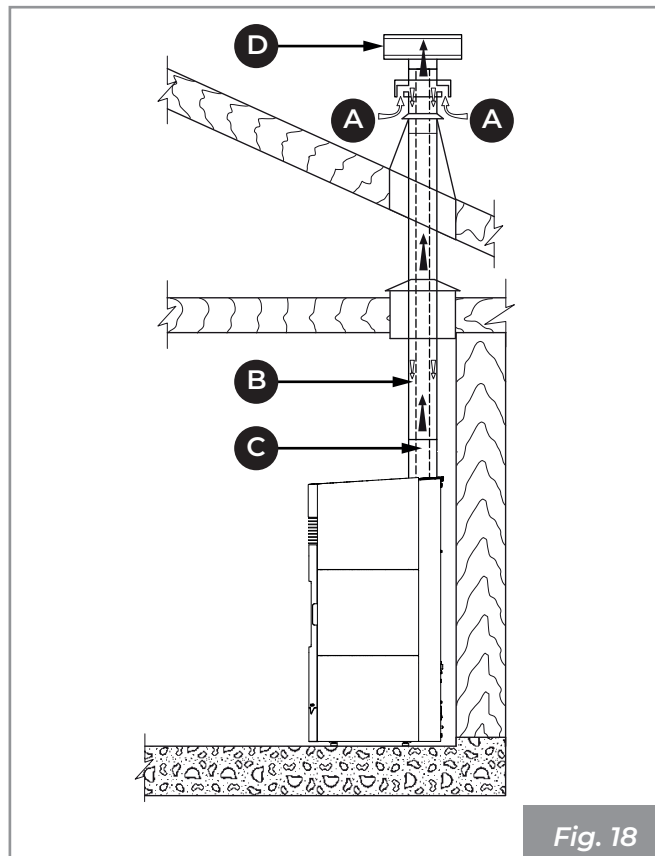
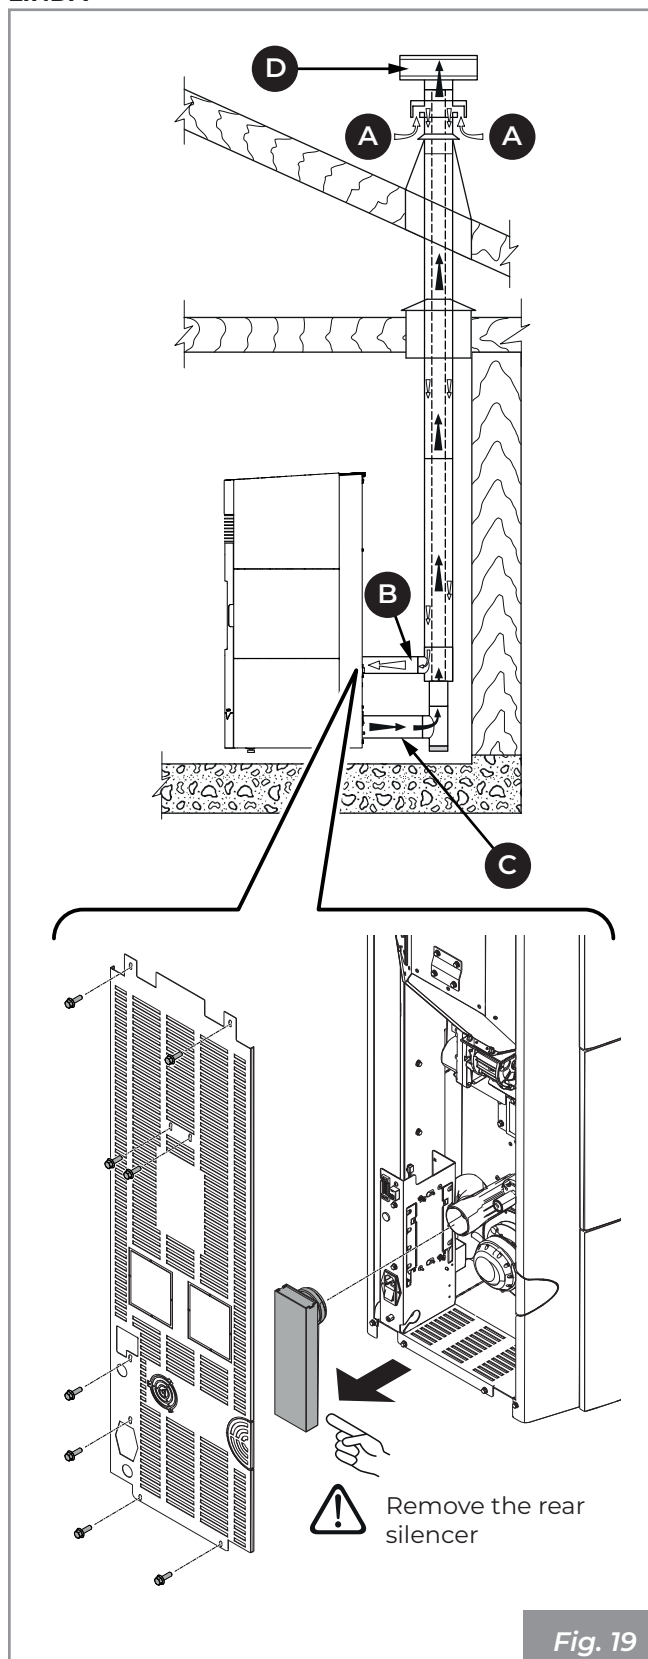
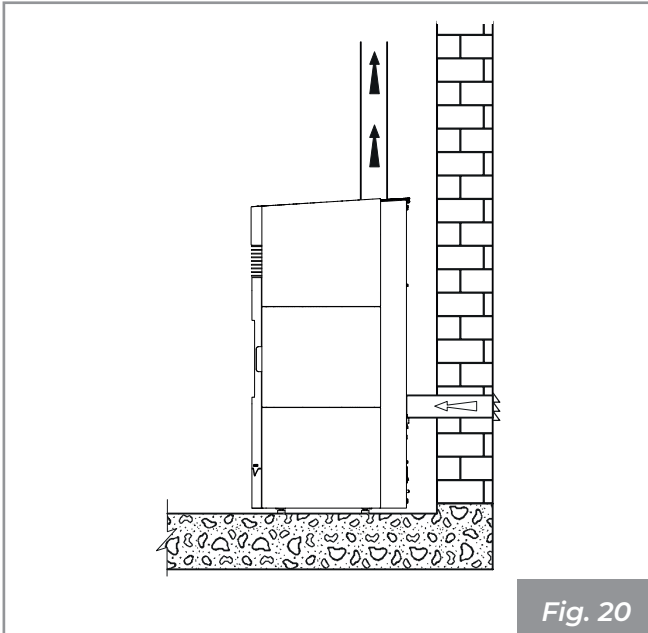
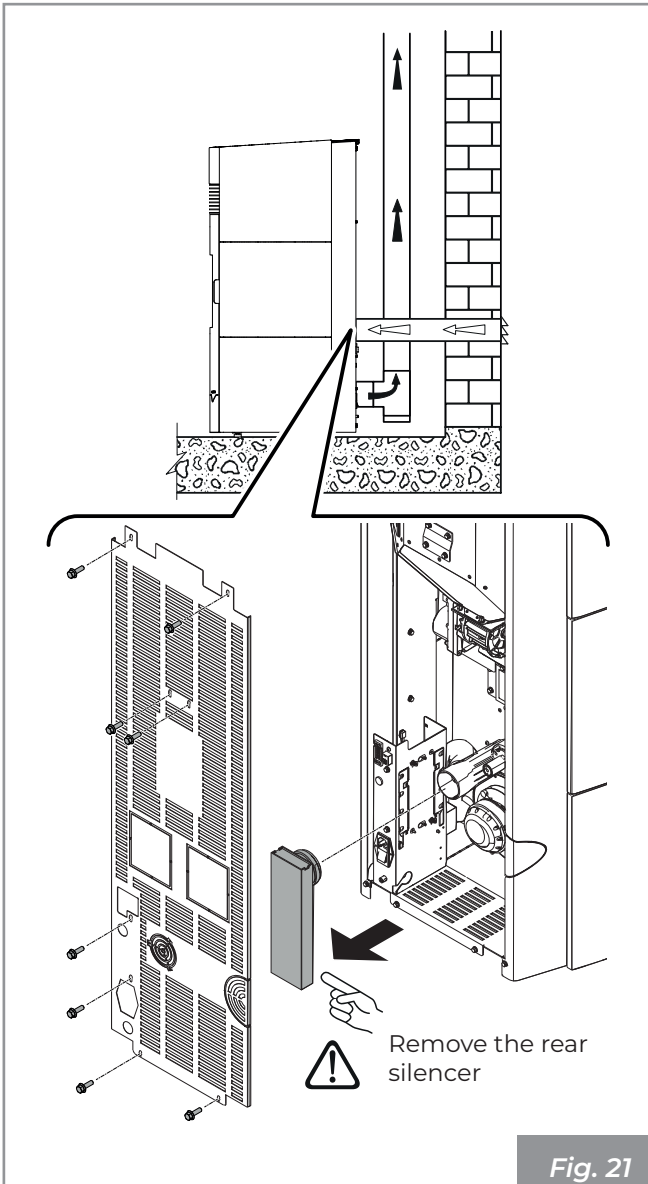

Fig. 18
Fig. 19
Fig. 20
Fig. 21
- it can come directly from outside with direct connection to the combustion chamber (**Fig. 18 - Fig. 21**).
- to channel the combustion air using a coaxial pipe to expel the flue gases and extract the air (**Fig. 18 - Fig. 19 - A, B = Air inlet, C, D = Flue gas outlet**); in this case it is not necessary to create a classic air intake in the room.
- to connect the combustion air inlet of the appliance to the air intake using a special pipe (**Fig. 20 - Fig. 21**).